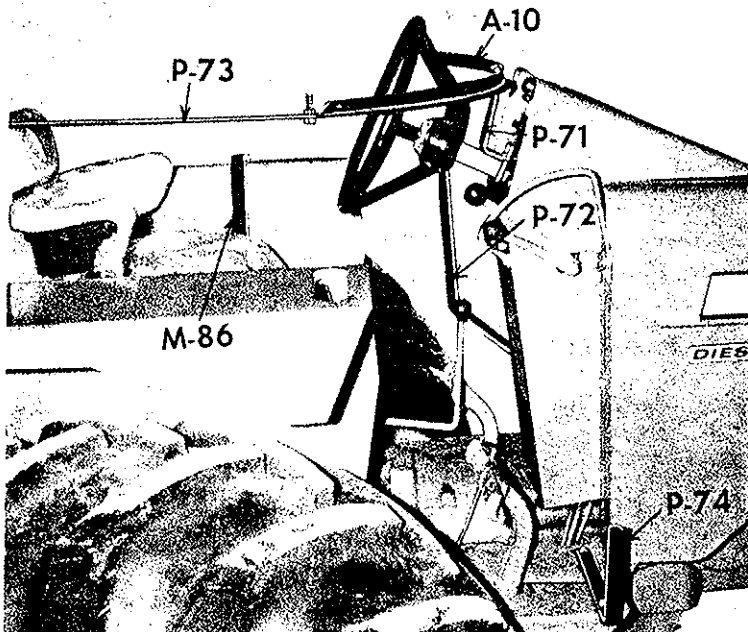

Figure 1
1. Bolt P-71 mounting bracket to steering column using U-bolt. U-bolt should fit up tight to dash. See Figures 1 and 2.
2. Bolt P-74 pedal guard to right step using 5/16" x 1" hex head bolts and nuts. (Outside hole will have to be drilled through hole of P-74 into step.) See Figure 1.
3. Place canvas over tractor and slide A-10 yoke into wide hem in top of cover. Bolt A-10 to P-71 using 1/4" x 3/4" bolts and nuts. See Figures 1 and 2.
4. Insert P-73 side arm into wide hem on right side and bolt to A-10 using 3/8" x 1 1/2" hex head bolt and nut. See Figure 1.
7. Bolt bottom of P-72 door post to side of battery box using 3/8" x 1 1/2" hex head bolt and nut. See Figure 1.
10. Hold M-86 latch up under bottom edge of door and mark through holes in latch. Drill two 1 1/32" holes in fender and bolt latch to fender using 3/8" x 1 1/2" hex head bolts and nuts. See Figures 1 and 2.